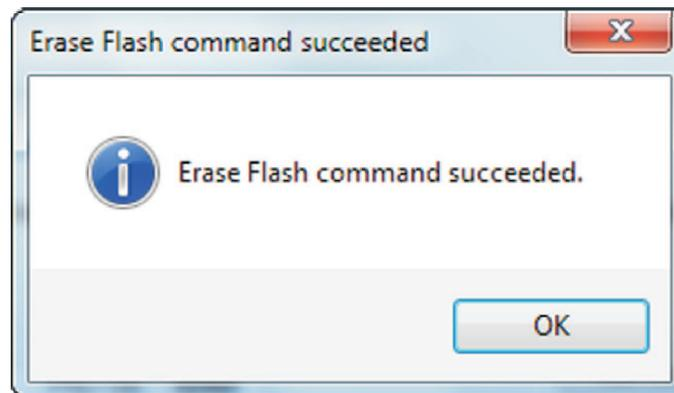

Figure 4-14. Erase Flash Command Succeeded
- Click OK after the erase flash command succeeds (see Figure 4-14).